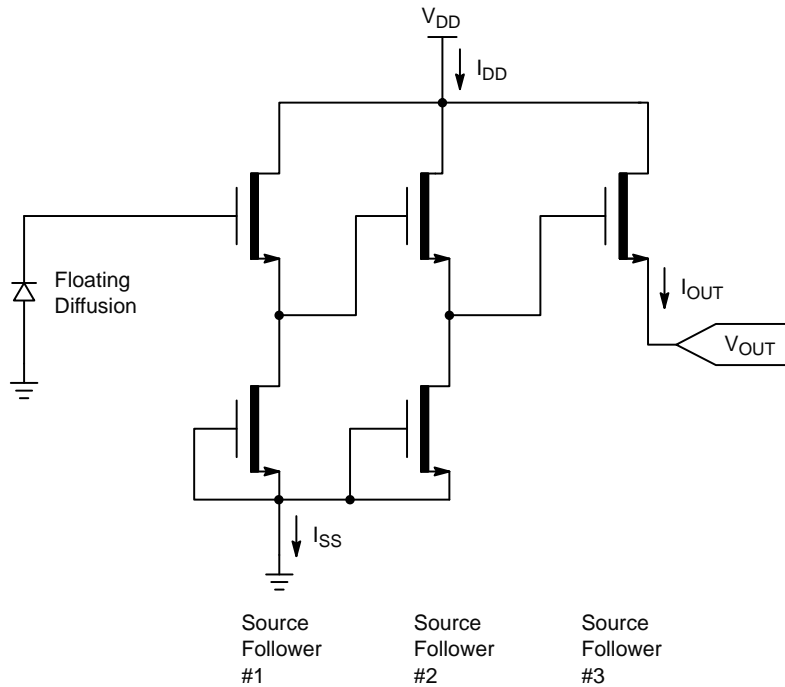

Figure 18. Output Architecture
- Each output. See Figure 18. Note that the current bias affects the amplifier bandwidth.
3. One output, unloaded. The maximum DC current is for one output unloaded and is shown as ISS in Figure 18. This is the maximum current that the first two stages of one output amplifier will draw. This value is with VOUT disconnected.